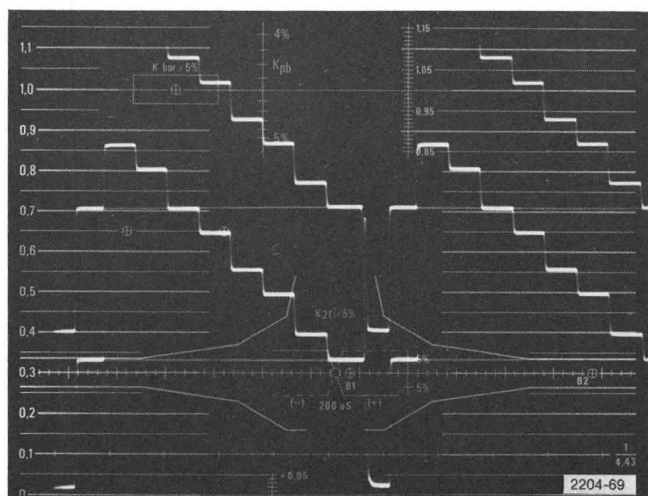

Fig. 6-22. Interpreting luminance levels.
f. CHECK—luminance levels. Table 6-8 provides the amplitudes and tolerances Fig. 6-22 shows how to compare levels.